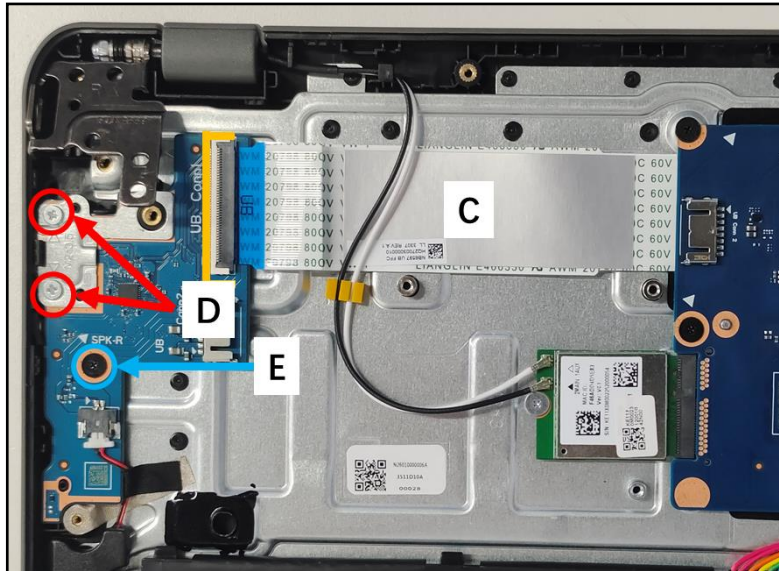

Figure 3-25. USB Board Removal
5. Disconnect the USB board H FFC (C) from the USB board and mainboard connectors (Figure 3-25). Then remove it from the top assembly.
6. Remove two (2) screws (D)/one (1) screws (E) securing the USB board and I/O bracket (Figure 3-25).